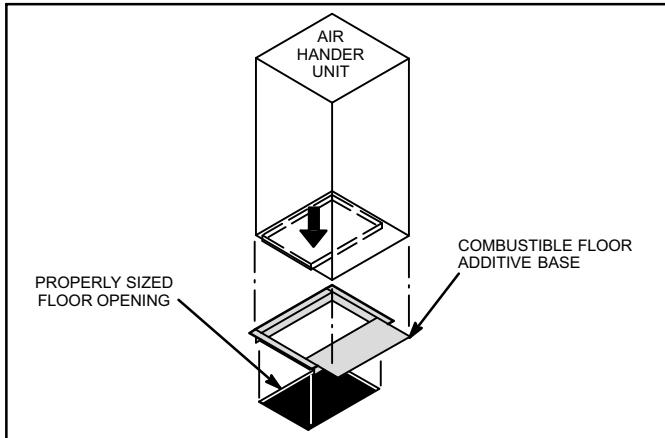

Figure 9. Downflow Combustible Flooring Base
8. For downflow installation on combustible flooring, an additive base must be used as illustrated in figure 9 on page 9. Downflow combustible flooring base kit 34J72 is available for use with the BCE4M24S. Base kit 44K15 is available for the BCE4M30S, 36S, 48S and 60S units.